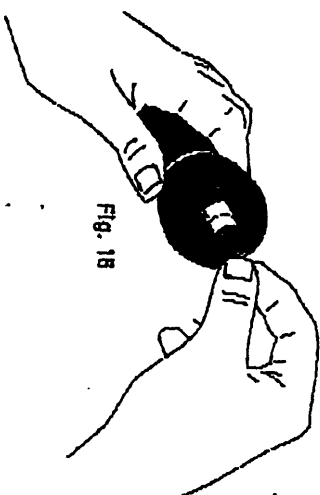

Fig. 16
3. Grasp the lamp firmly (Fig. 16) with thumb and forefinger. Pull straight up until lamp's pins are clear of receptacle. Do not dispose of old lamp in fire or trash compactor.
To obtain the best "spot pattern" and beam focus it is important to center the bulb in the bottom opening in the parabolic reflector. The bulb has two pins which allow for this adjustment. After inserting the bulb in the receptacle, apply a slight pressure on the bulb with your thumb and index finger to obtain alignment (Fig. 16). Place the reflector over the bulb and look through the clear lens to visually inspect for proper centering. Re-adjust as required. Gently wipe bulb surface with a clean, soft cloth to remove fingerprints.